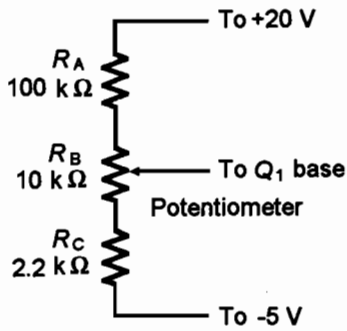

Figure 26.2
9. Connect the voltage divider network of Figure 26.2. Monitor the DC input (to 100 mV positive or negative) and measure the DC level change at the amplifier.